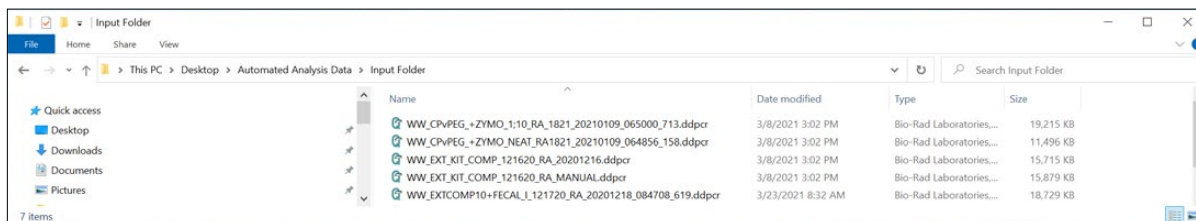

Fig. 8. Files to be analyzed are copied into the Input folder.
- Copy all the .ddpqr files (Figure 8) to be analyzed into the Input folder specified in step 3.